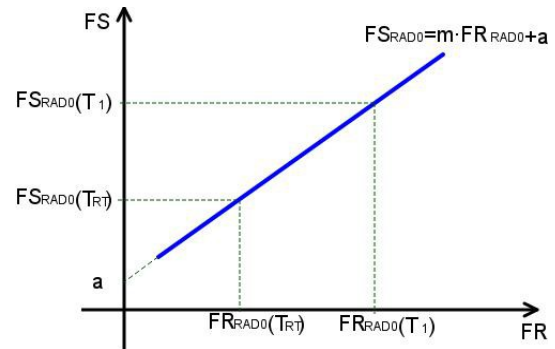

Figure 4: Variation of *FS* and *FR* with temperature
where $FS_{RAD0}(T_{RT})$ is the sensor frequency with no radiation at room temperature. This line is shown in Figure 4. The resulting equation is:
With $FR_{RAD1}(T_3)$ and formula (1), $FS_{RAD0}(T_3)$ can be obtained. From Figure 4 it can be seen that: